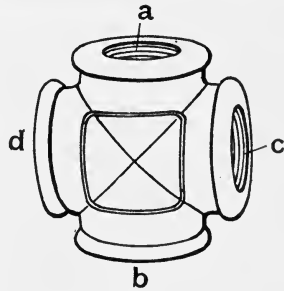

Fig. 32
Types of the several fittings generally used in vent systems are shown in the following illustrations. The fitting, Fig. 32, is a cross, and may be had with all the outlets one size or with the different outlets reduced to whatever size
**Reading Fittings.**—Fittings are known and read according to their outlets, always starting with the largest opening. For instance, if the outlet marked *a* on the cross, Fig. 32, were 2 inches; the outlet *b*, 1½ inches; the outlet *c*, 1¼ inches, and the outlet *d*, 1 inch, the fitting would be known and read as a 2x1½x1¼x1 cross. If there were only two sizes of outlets to the cross, one size on the run (*a* to *b*) and one size on the branches (*c* to *d*) the cross would be read by those two sizes of outlets. For instance, if in the run were 2-inch outlets, and in the branches 1½-inch outlets, the fittings would be known as a 2x1½-inch cross.